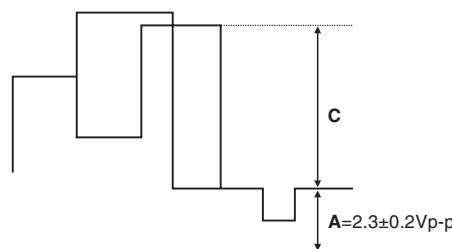

Fig. 2
3. Connect the oscilloscope in TPL1 (R-OUT) a 10KΩ resistor in and confirm that the waveform in [C] it is of 2.45±0.1V according to fig. 2.